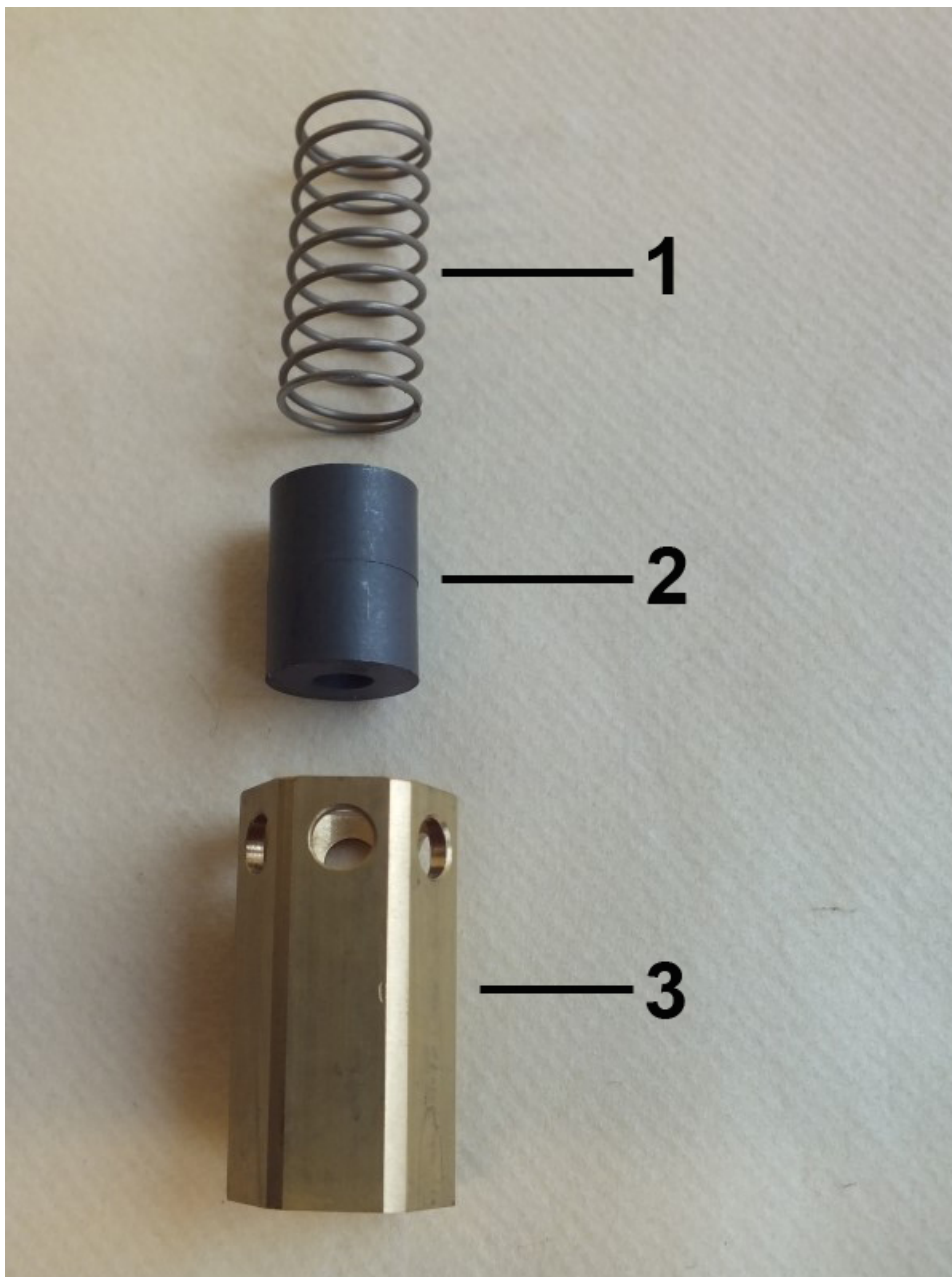

Fig. 27: Inner parts
- 1.** ➤ Insert spring (*Fig. 27/1*) with magnets (*Fig. 27/2*) into the float (*Fig. 27/3*), ensuring proper magnetic pole orientation (north pole toward device outlet).